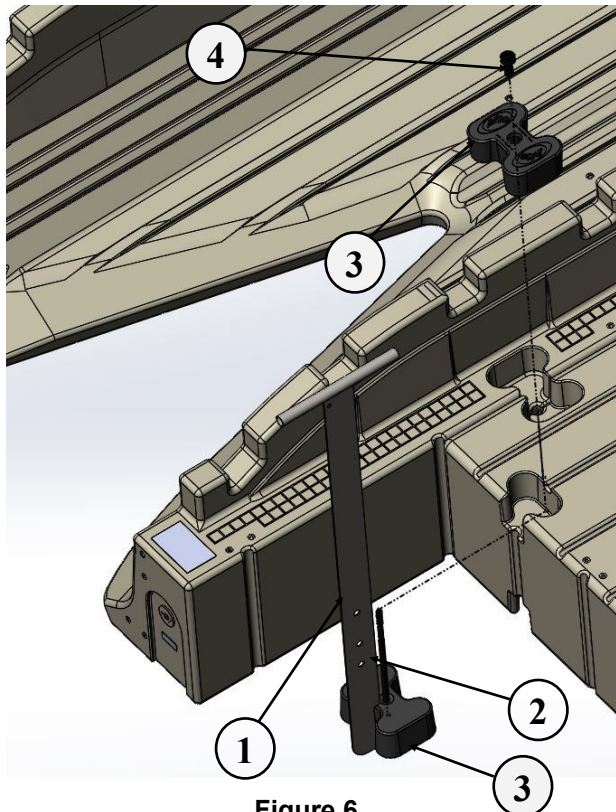

Figure 6.
4. Align the EZ Dock dock sections and the EZ Residential Launch so coupler pockets are adjacent to each other (Figure 6).
5. Using the in-water installation tool (Item 7), insert the coupler and bolt assembly into the bottom pocket with the bolt pointing upward (Figure 6).